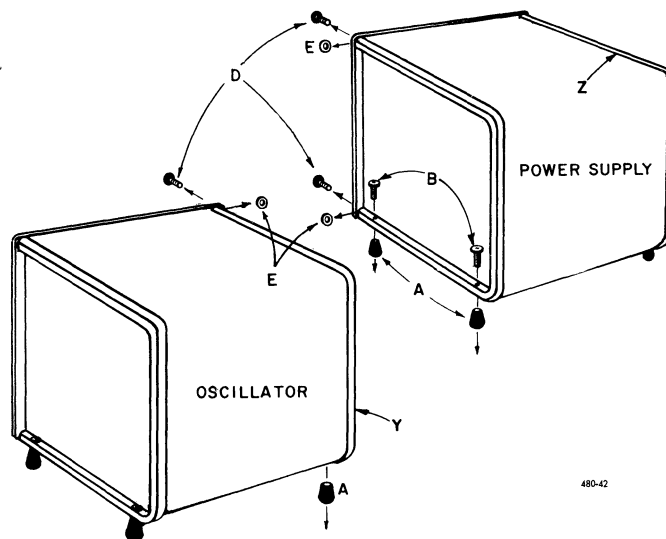
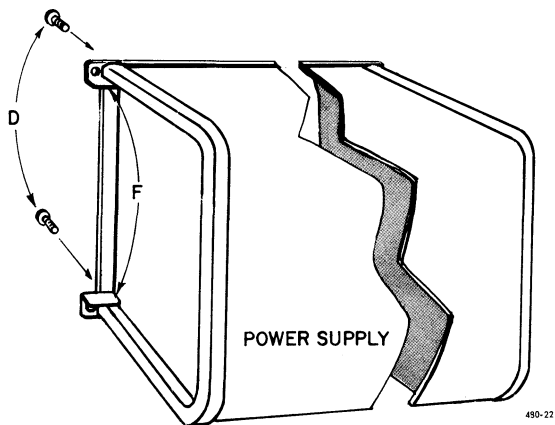
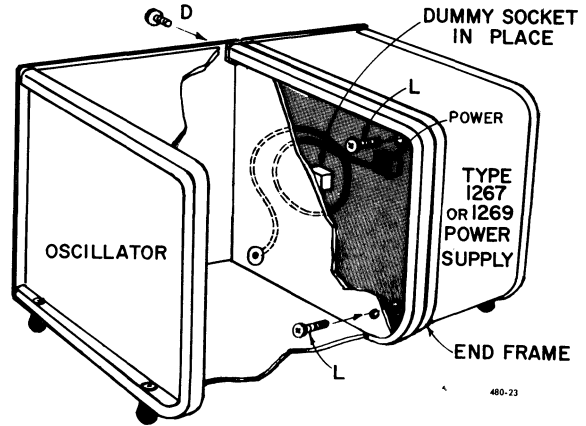

Figure 2-1. Preparation for bench mounting hardware.
Figure 2-2. Installation of clip in place of washers.
Figure 2-3. Installation of oscillator with Type 1267 or 1269 Power Supply.
- b. Release the two end-frame attaching screws (D) at the left-hand edge (as seen from the front of the oscillator and the power supply (Figure 2-1)).
- c. Withdraw the screws and remove the spacers (E) between the panels and the end frame.
h. Replace and tighten screws (D) and spacers (E) at the left-hand edge of the power supply.
j. Remove both rubber feet (A) at the right-hand side of the power supply and the left-hand side of the oscillator so that the feet will not interfere with one another (see Figure 2-1). Retain screws (B).
k. Release the two end-frame attaching screws (D) at the right-hand edge of the power supply.
l. Withdraw the screws and remove the spacers (E) between the panel and the end frame.
m. Install one clip (F) in place of each spacer on the power supply, with the plain surface of the clip against the inner surface of the end frame. Align one hole in each clip with the appropriate panel hole (Figure 2-2).
n. Reinstall the panel screws (D) through the clips, into the end frames.
p. Attach the 5-pin plug from the oscillator to the POWER jack on the supply. Figures 2-3 and 2-4 show the oscillator/power supply combination as finally assembled.
s. Reinstall the front-panel screws (D) in the oscillator, through the clips, into the end frame.
t. Pass the 10-32 screws (L) (supplied) through the rear clearance holes (top and bottom) on the oscillator left-side panel (Figures 2-3 and 2-4).